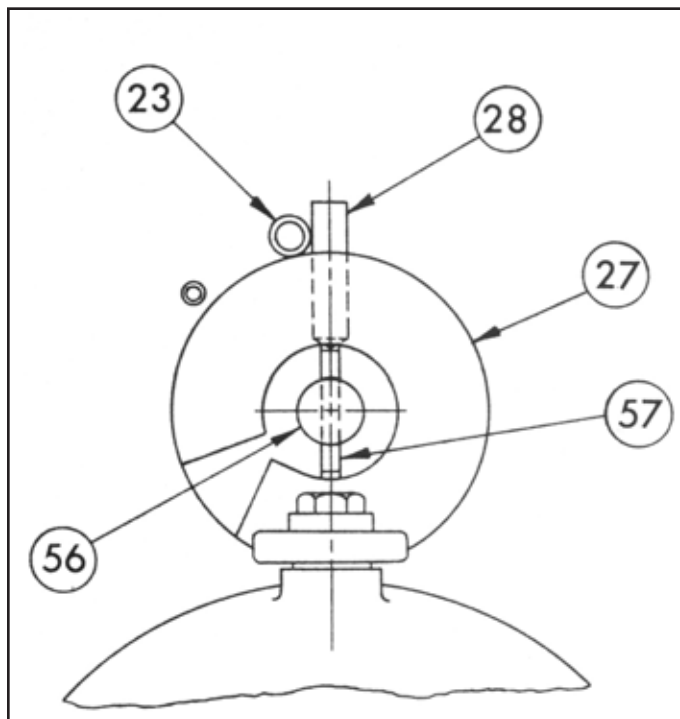

Figure 6.
Place shaft (56) through cam (27) engaging pin (57) in cam slot. Insert shaft and cam through bushing (21) in magnet plate from side opposite the coils. The stop pin (28) in the cam should be as shown in Figure 6. Place return spring over shaft on side with coils on, hooking spring (29) over pin (22). Holding shaft and cam in position, rotate the tang end of return spring counter clockwise 1/4 turn, engaging tang into slot on shaft end. Install washer (30) and nut (31). Tighten nut (31) to take up end play only. There should be spring pressure holding the stop pin the cam against the stop pin in the magnet plate.